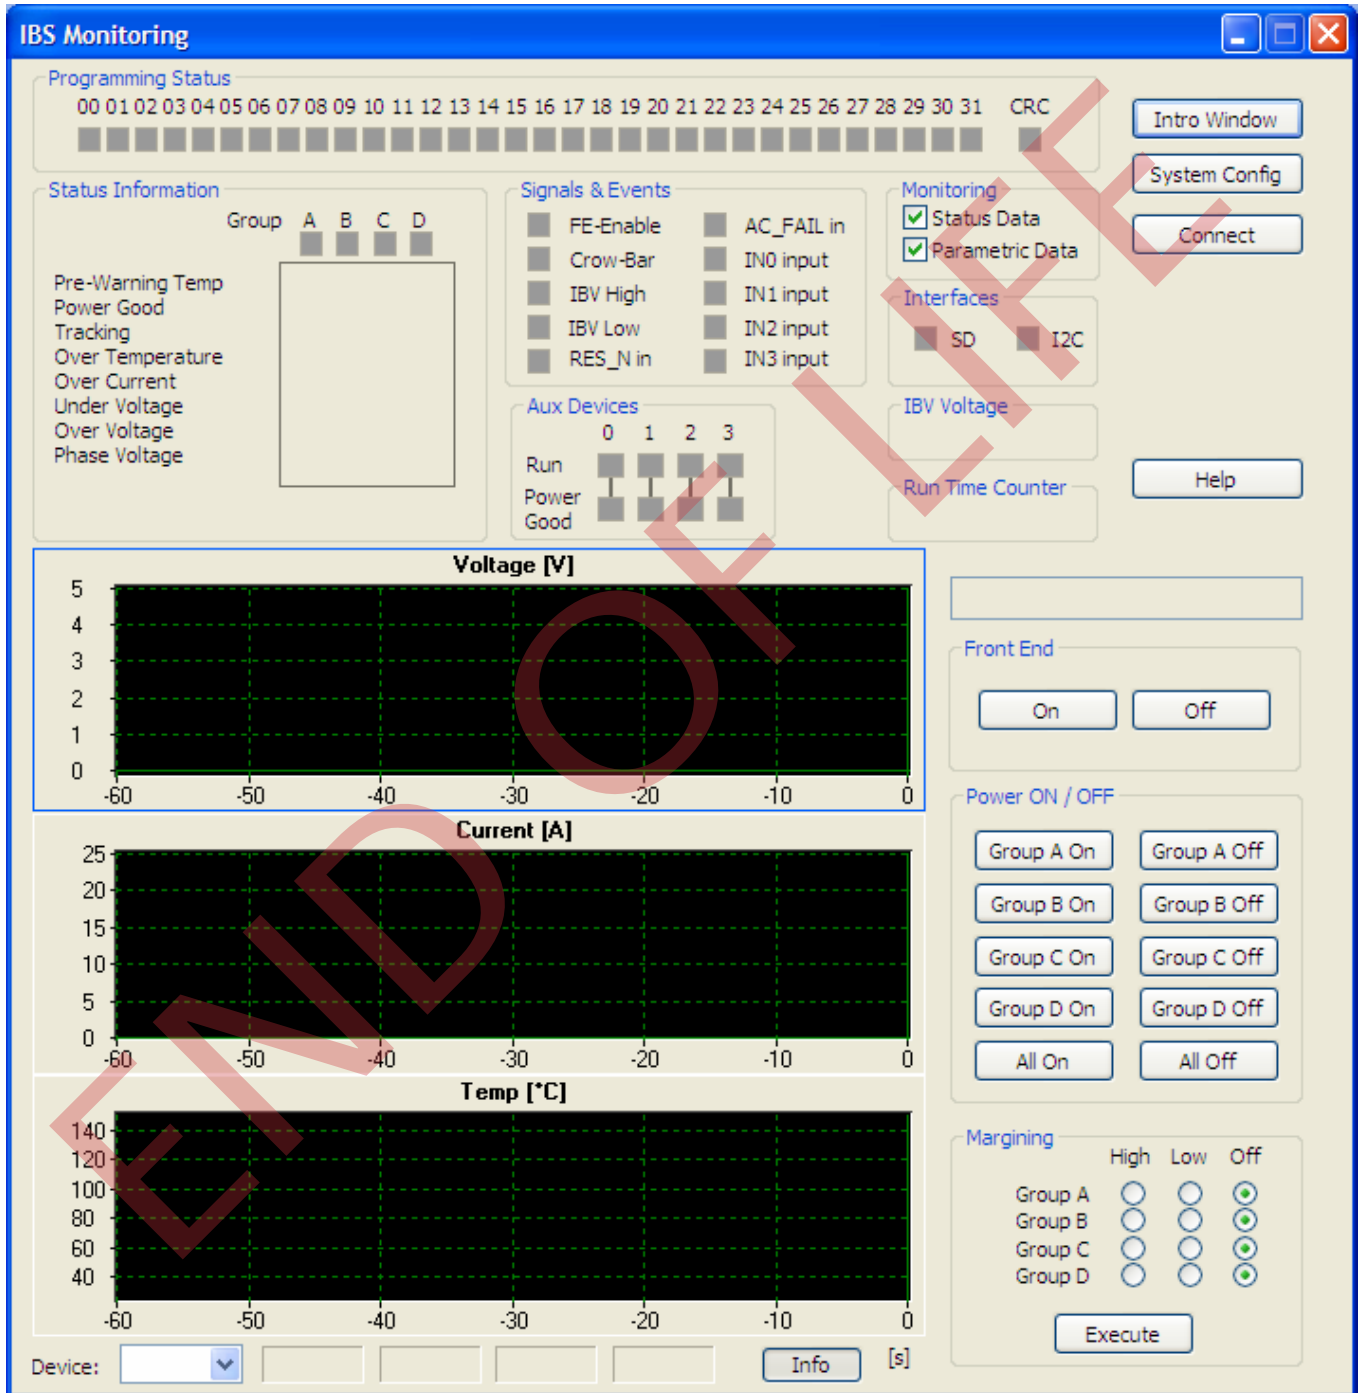

Figure 9. IBS Monitoring Window, Communication Is Not Established
4. Click **Operate System** in the Introduction Window. The **IBS Monitoring** window shown in Figure 9 will appear